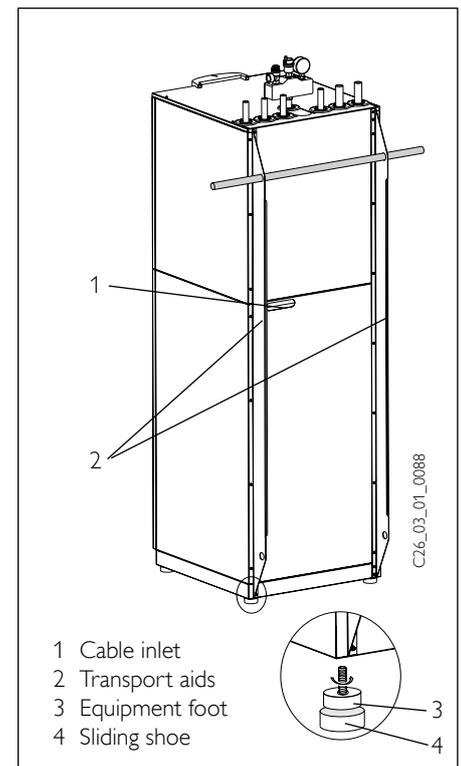

Fig. 9
Where space is restricted, you may also move the equipment tipped backwards at an angle not exceeding 45°. In conjunction with a suitable tube, the brackets at the back of the equipment assist in handling the unit (Fig. 9). Storage and transport at temperatures below -20 °C and in excess of +50 °C are not permissible.
3. Before removing the equipment from the pallet, remove the equipment feet (3) in Fig. 9 from the pack supplied, and insert fully into the equipment.
4. Remove the equipment from its pallet and position it where required. To position the equipment better; you may use the sliding shoes (4) supplied in the pack.
5. Remove the transport aids (2).
Route all connecting cables and sensor leads through the apertures in the back panel (item 1, Fig. 9).